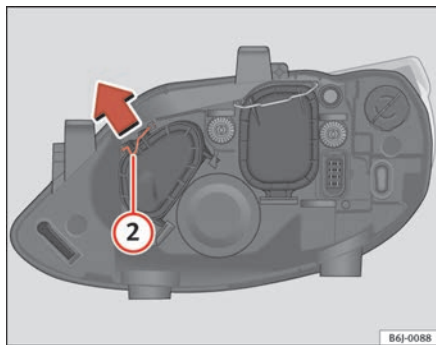

Fig. 148 Main beam headlights
- Remove the loop ② in the direction of the arrow and remove the cover ⇒ fig. 148.